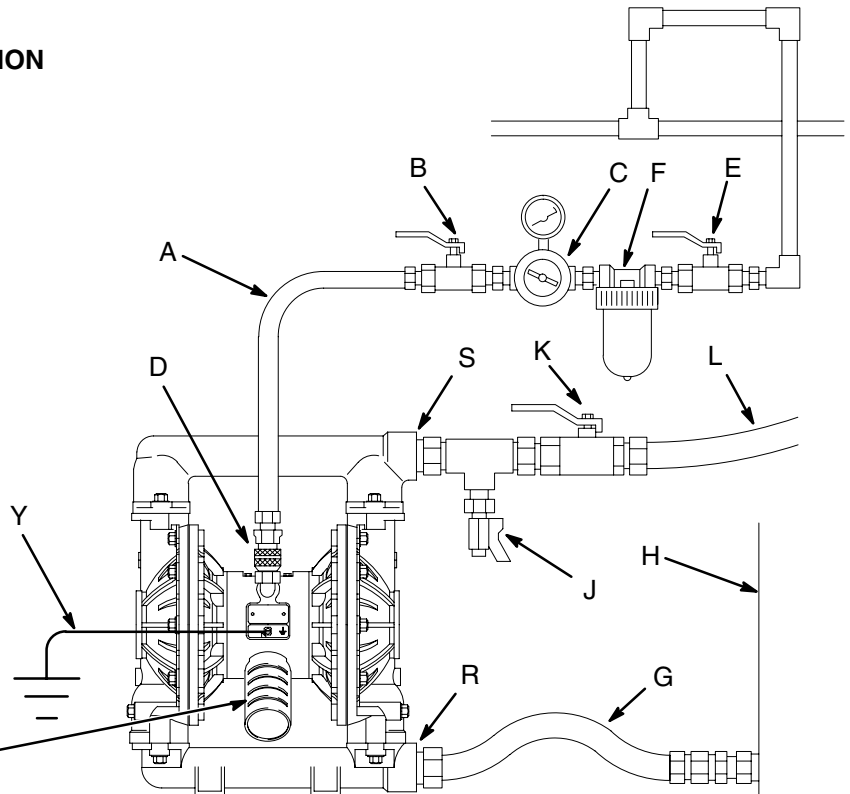

Fig. 2
- The typical installation shown in Fig. 2 is only a guide for selecting and installing system components. Contact your Graco distributor for assistance in planning a system to suit your needs.
A bleed-type master air valve (B) is required in your system to relieve air trapped between this valve and the pump. Trapped air can cause the pump to cycle unexpectedly, which could result in serious injury, including splashing in the eyes or on the skin, injury from moving parts, or contamination from hazardous fluids. See Fig. 2.
1. Install the air line accessories as shown in Fig. 2. Mount these accessories on the wall or on a bracket. Be sure the air line supplying the accessories is grounded.
- a. Install an air regulator (C) and gauge to control the fluid pressure. The fluid outlet pressure will be the same as the setting of the air regulator.
- b. Locate one bleed-type master air valve (B) close to the pump and use it to relieve trapped air. See the **WARNING** above. Locate the other master air valve (E) upstream from all air line accessories and use it to isolate them during cleaning and repair.
- c. The air line filter (F) removes harmful dirt and moisture from the compressed air supply.
A fluid drain valve (J) is required to relieve pressure in the hose if it is plugged. The drain valve reduces the risk of serious injury, including splashing in the eyes or on the skin, or contamination from hazardous fluids when relieving pressure. Install the valve close to the pump fluid outlet. See Fig. 2.
1. Use grounded fluid hoses (L). The pump fluid outlet (S) is 1-1/2 in. npt(f). Screw the fluid fitting into the pump outlet securely.
2. Install a fluid drain valve (J) near the fluid outlet. See the **WARNING** above.
3. Install a shutoff valve (K) in the fluid outlet line.
4. Place the end of the fluid hose (L) into an appropriate container.
5. Close the fluid drain valve (J). See Fig. 2.
6. Close the pump air regulator (C). Open all bleed-type master air valves (B, E).
8. Slowly open the air regulator (C) until the pump starts to cycle. Allow the pump to cycle slowly until all air is pushed out of the lines and the pump is primed.